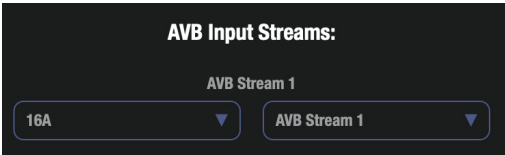

Figure 9-2: Connecting an input stream.
- 4 Go to the Device tab. In the *AVB Input Streams* section choose the 16A as a source device for one of the streams and choose *Media Clock* for its *Source Stream* (Figure 9-2 on page 72), if available. If not, choose any available input stream from the menu.